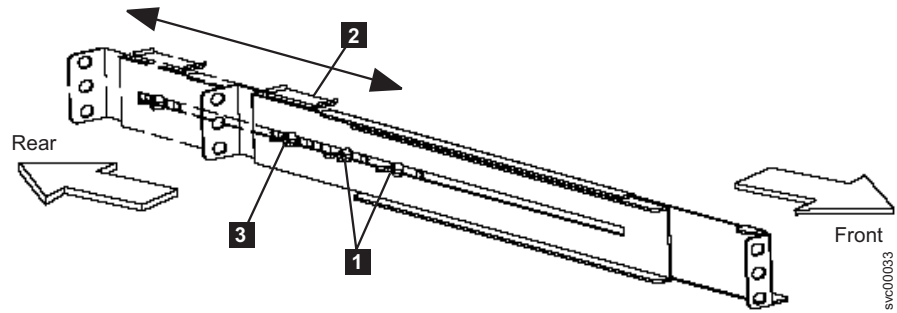

Figure 87. Adjusting the rail depth on the UPS 5115
3. Loosen the assembly wing nuts (see **1** in Figure 87 on page 214) on both rail assemblies and adjust the rail size to the depth of your rack.